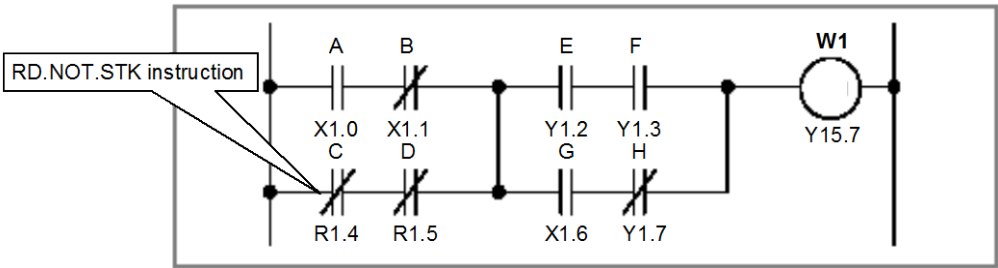

Fig. 4.1.11
- (1) The RD.NOT.STK instruction stacks the interim result of a logical operation. Use this instruction when the signal you specify is contact B (–|/–). After shifting the register content one bit to the left, the instruction reverses the status of the signal at the specified address and sets it in the ST0 bit.
- (2) For examples of how the RD.NOT.STK instruction is used, see Fig. 4.1.11 and Table 4.1.11.